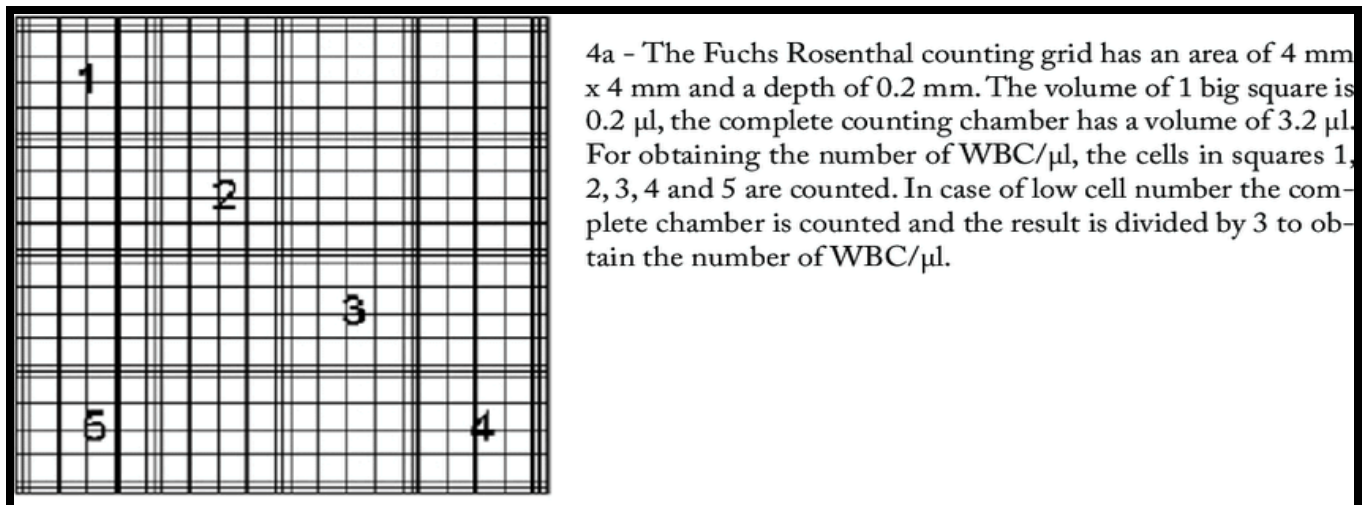

Figure 1: Layout of Fuchs-Rosenthal counting chamber.
3. Count the protoplasts in 3 bigger squares (within one counting grid), each on a different row as shown on (Figure 1).
5. Multiply the number by 1000 to get the total number /mL and in case of a diluted sample, multiply it further with corresponding dilution factor. Example: if the average number of protoplasts was 27 in square 1 and 2 (Figure 1), the total number of protoplasts in 1 mL volume will be  $27 \cdot 5 \cdot 1000 = 135000$  if the sample was undiluted.